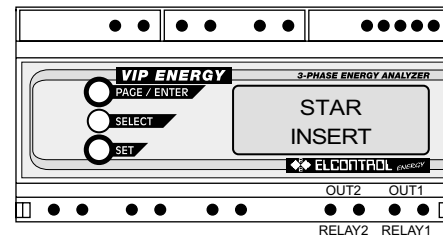

Fig. D.1
The VIP ENERGY RPQS is equipped with two solid state relay outputs with voltage-free contacts (280 VAC ms max., 100 mA ms max.) - Fig. D.1 - They supply pulses with the characteristics shown in Fig. D.2 and with frequency proportional to any 2 of the parameters active power P, or P+(POS) and P-(NEG) with option COG4 selected, apparent power (S), or reactive power Q+(POS) inductive, negative Q- capacitive, selected using the keyboard by means of the menu page provided.